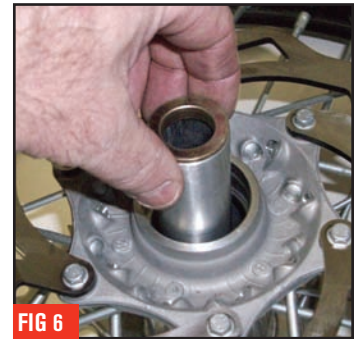

FIG 6
- 9 Take the supplied new center bearing sleeve and place it in the center of the hub. (Fig. 6) Tap your second bearing into the hub on top of the center bearing sleeve, making sure to keep in square with the hub as you tap it in, and only tapping on the outside bearing race. Now tap in your second seal and bearing spacer.